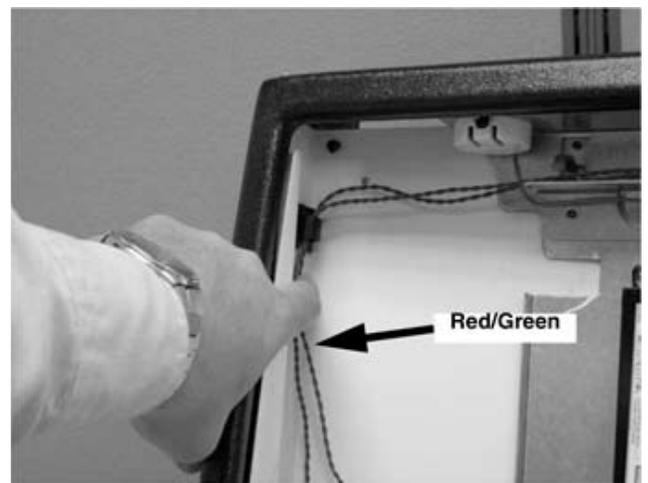

Figure 51.
- M. Re-attach wire pairs to their clips in the left side corner, see Figure 51.